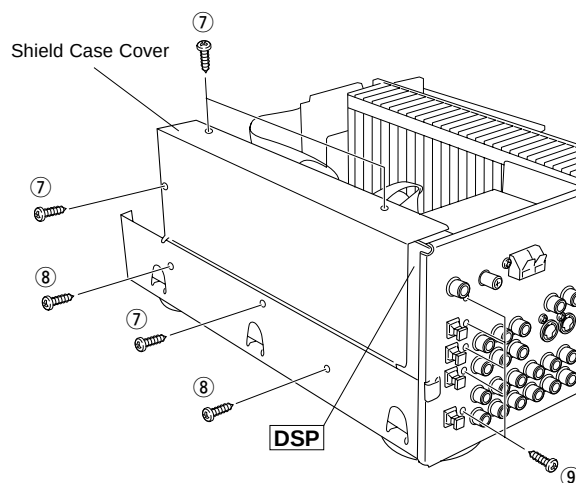

Fig. 3
- Remove 4 screws (⑦) and then remove the Shield Case Cover in Fig. 3.
- Remove 7 screws (⑧ and ⑨) and then remove the DSP P.C.B. in Fig. 3.